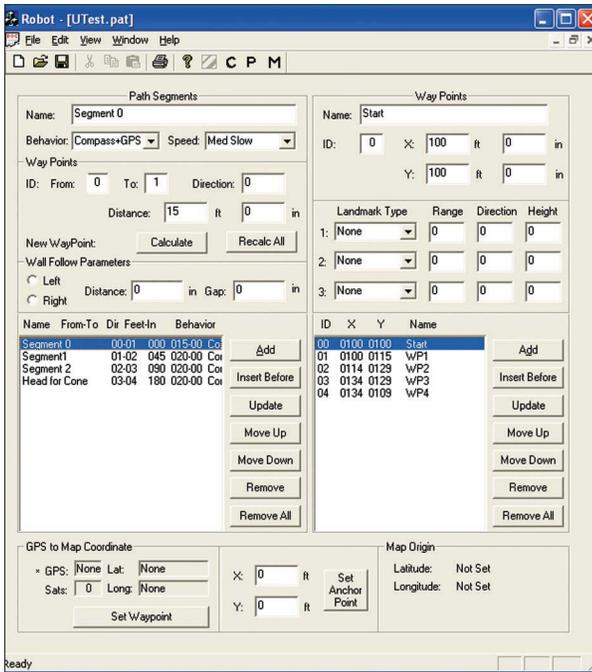

FIGURE 2. Seeker Path Entry
- Path entry for following a complex course (Figure 2)